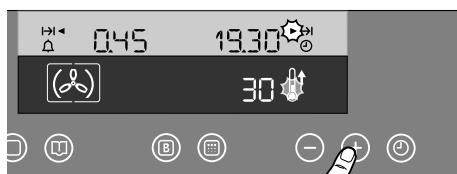

Fig. 15
3. Within 5 seconds, touch control "+" to select the required end of cooking time, which is shown at the right hand of the time display (Fig. 15).